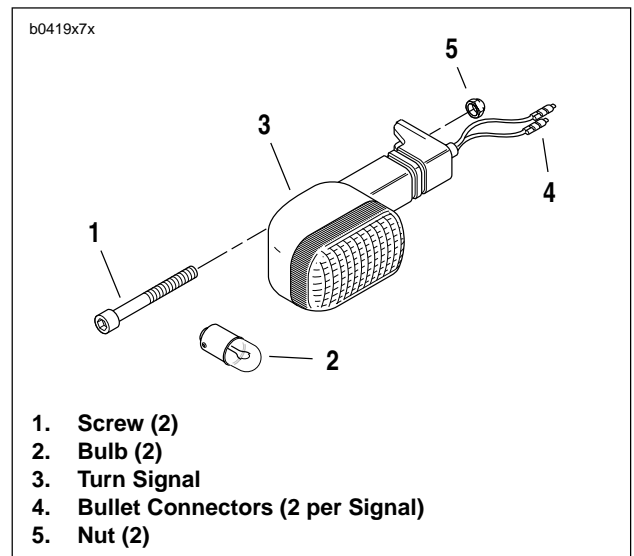

Figure 7-43. Front Turn Signals
2. See Figure 7-43. Remove screws (1) and nuts (5).
3. Remove turn signals (3).
1. See Figure 7-43. Insert bullet connectors (4) through forward hole in front fairing. Attach turn signals (3) using screws (1) through rear hole and nuts (5).